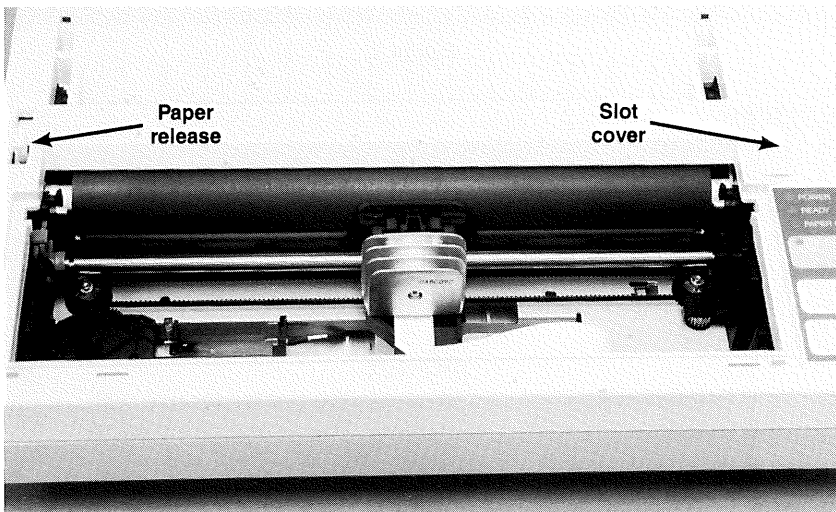

Figure 9.
16. Pull the paper release lever forward. Use the flathead screwdriver to remove the slot cover for the tractor drive. The slot cover is located above the control panel. See Figure 9.